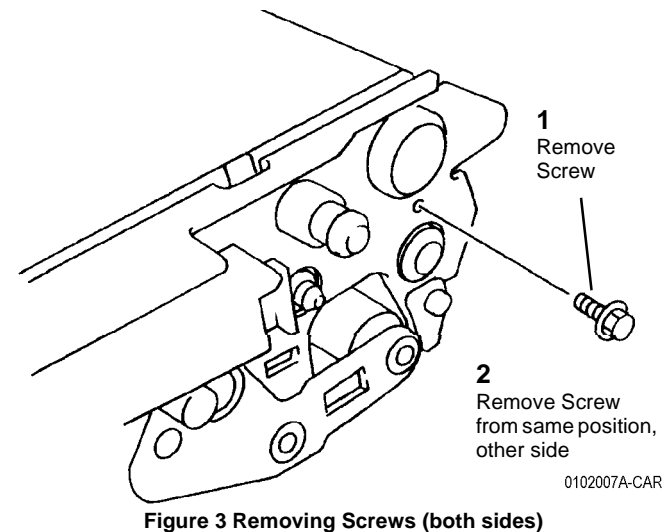

Figure 3 Removing Screws (both sides)
5. Remove screws on both sides (Figure 3).